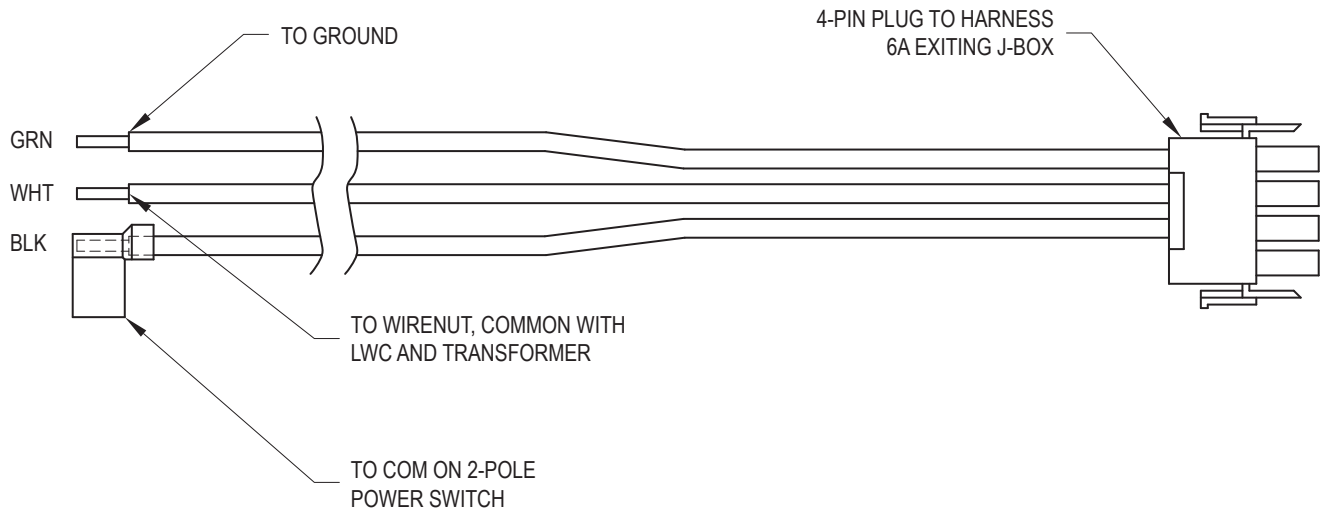

Figure 10. Harness 4, Models 0962-1826
8. Connect the loose wires on HARNESS 4 per **Figure 10**. The 4-pin plug remains inside the J-box.